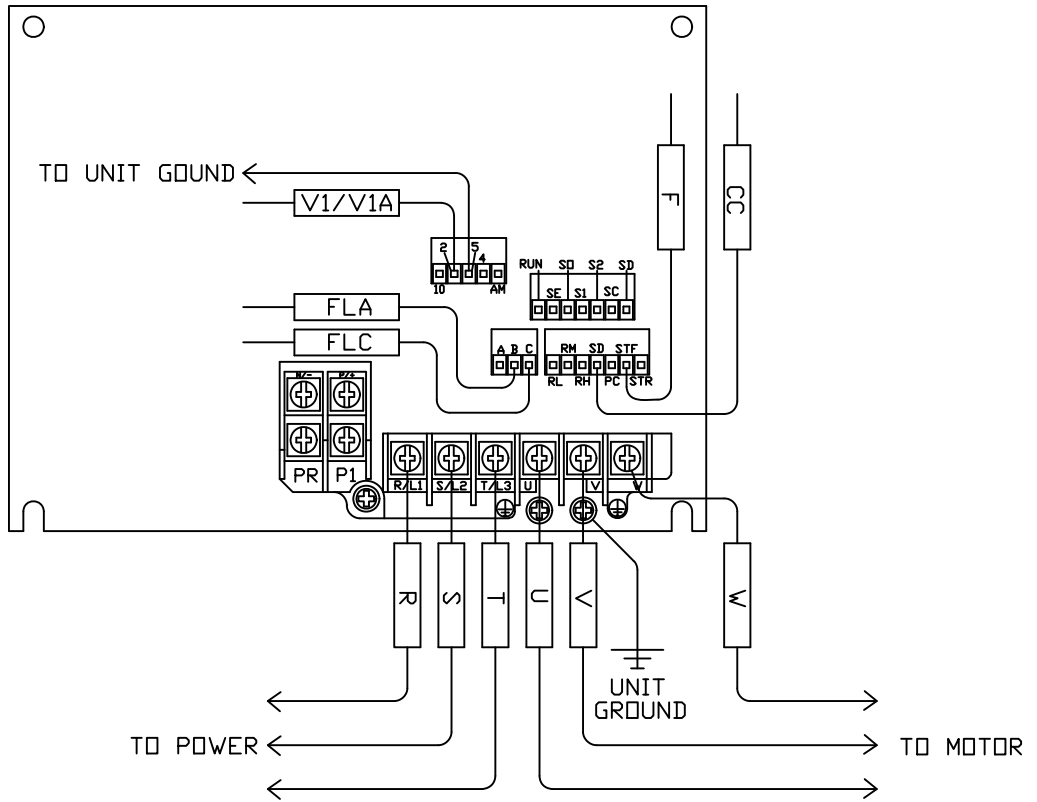

FIGURE 3
- 1- Make low voltage wiring connections using table 2 as a cross reference. See figure 3 through 6.
- 3- Make power wiring connections as shown in figures 3 through 6.